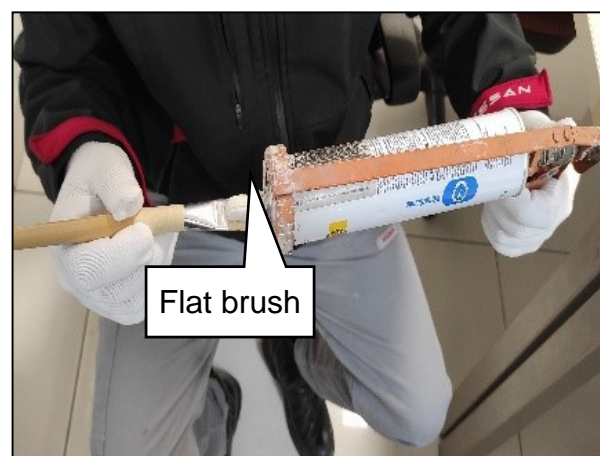

Figure 18
12. Apply 1" of the seam sealer on the flat brush (Figure 18).